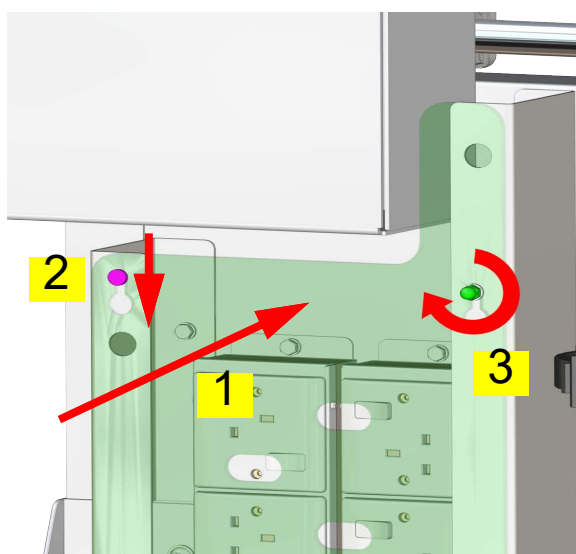

Fig 3.2 Power Distribution Unit Cover - Fitting
- Align cover keyhole slots over fixings (1), and lower into position, engaging 4off keyhole slots (2).
- Make sure M6 washer and M6 dome nut are on outside face of cover, and tighten (Fig 3.2).